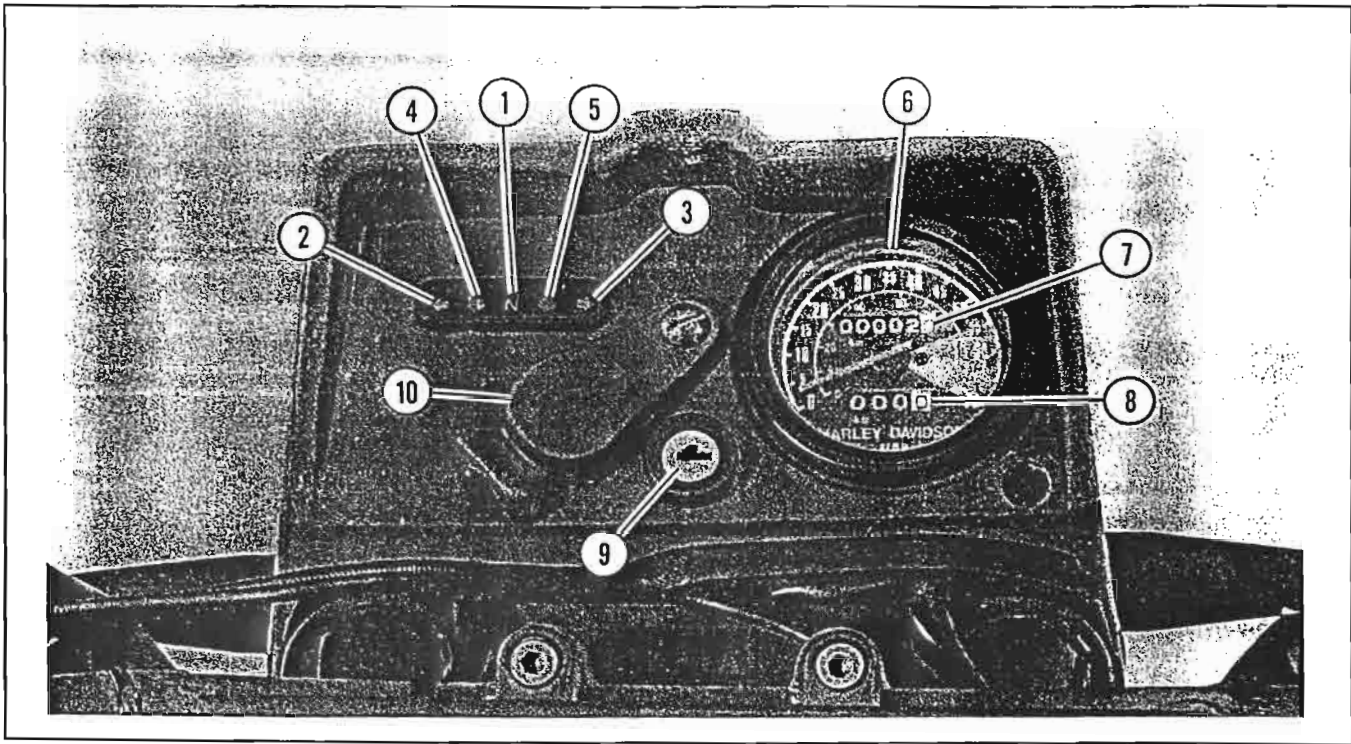

Figure 2-4. Instrument Panel
2. *Instrument/Indicator Lamp Cluster* – See Figure 2-4.